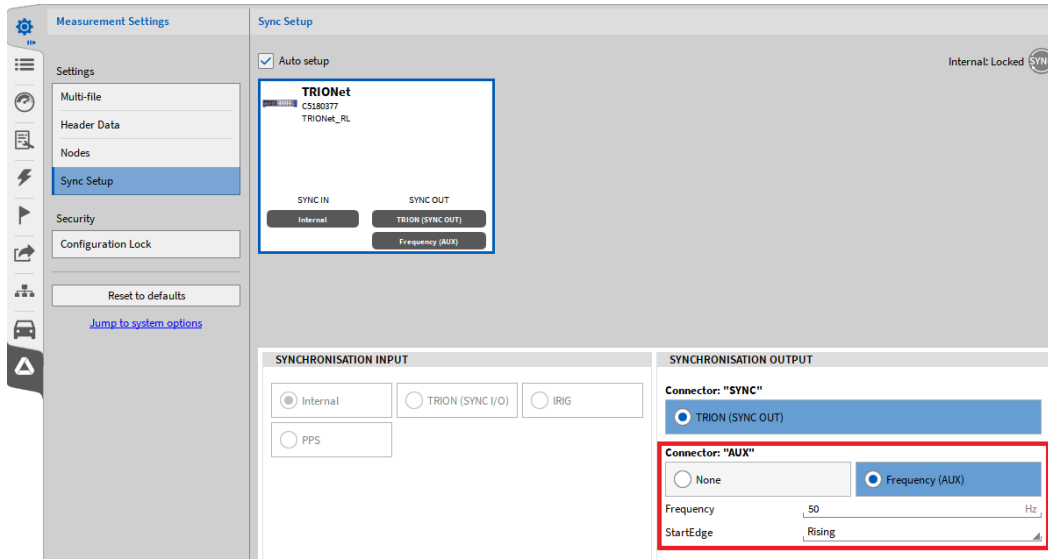

Figure 3-5
- Enable the *Frequency (AUX)* output in the *Synchronisation Output* section, select the desired signal *Frequency* (which will be the frame rate of the camera) and set the *StartEdge* to *Rising* (see Figure 3-5).